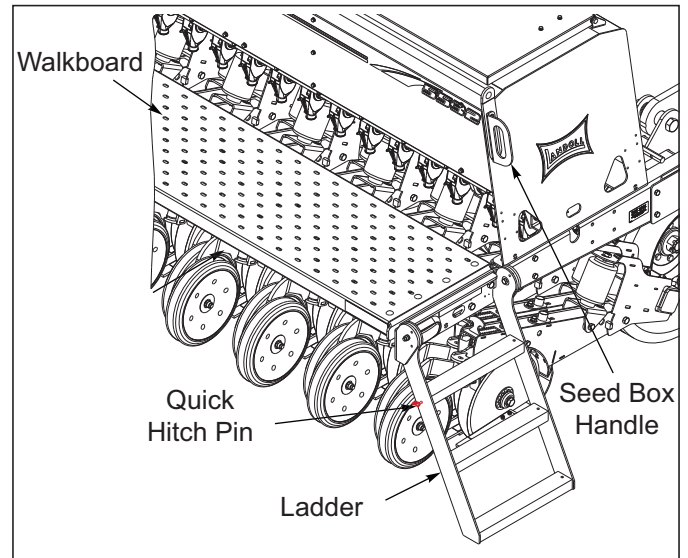

Figure 4-40: Using the Ladder
- a. Lower ladder to the down position and place pin in the storage location to gain access to the seed boxes *See Figure 4-40*.